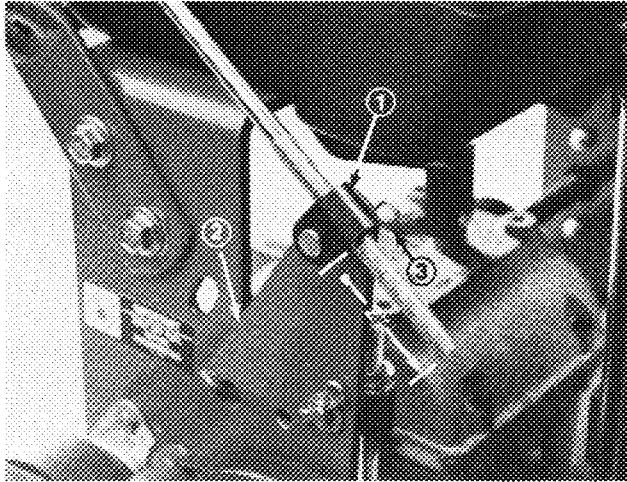

Figure 7
1. Thread a rod fitting onto each control rod approximately 2" (Fig. 7).
2. Mount rod fitting ends to mounting holes in idler brackets (from outside) with clevis pins, washers and hairpin cotters (Fig. 7).